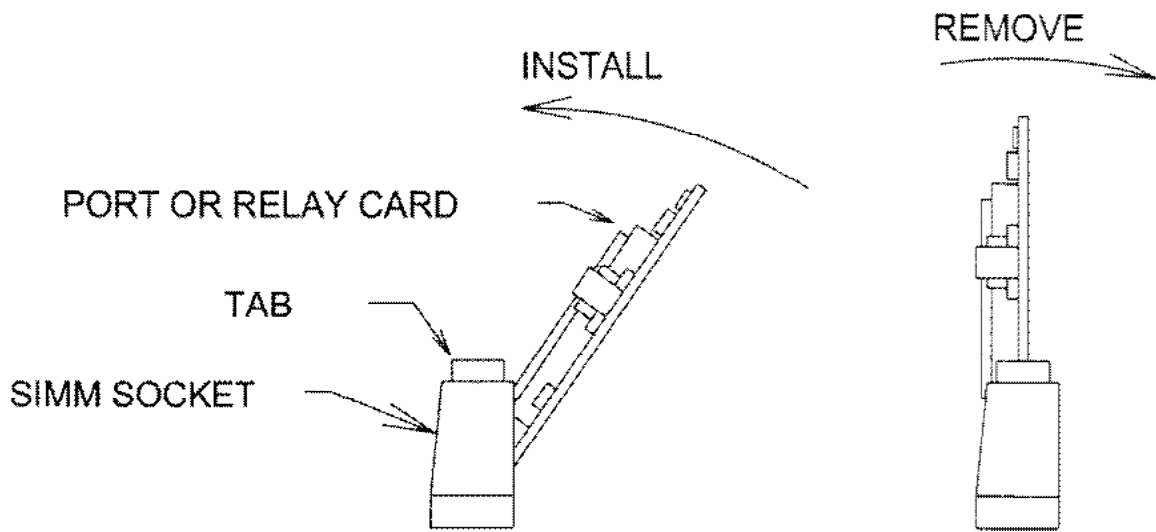

Figure 10. Card Installation and Removal
Dual relay cards (DTI P/N 300-3020-001) mount only in slots JP9 through JP12 and should be mounted sequentially beginning with slot JP9. Refer to Figure 10 when installing or removing port or relay cards.
3. To remove the card (see Figure 10) pull the tabs on the retainer outward until the card is released. When the card releases, it will rotate toward the rear of the unit. If possible, dismount and lay the unit on a horizontal surface.